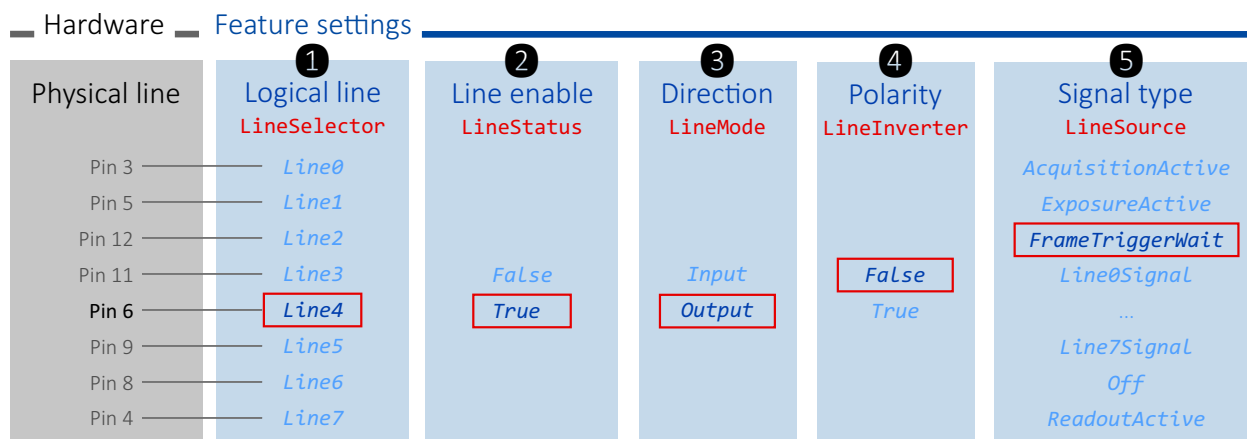

Figure 24: Example > Feature settings for Line4
Figure 24 shows an example where Line4 ① is enabled ② to output ③ a signal when the camera is ready to receive triggers ⑤, the signal level is not inverted ④: